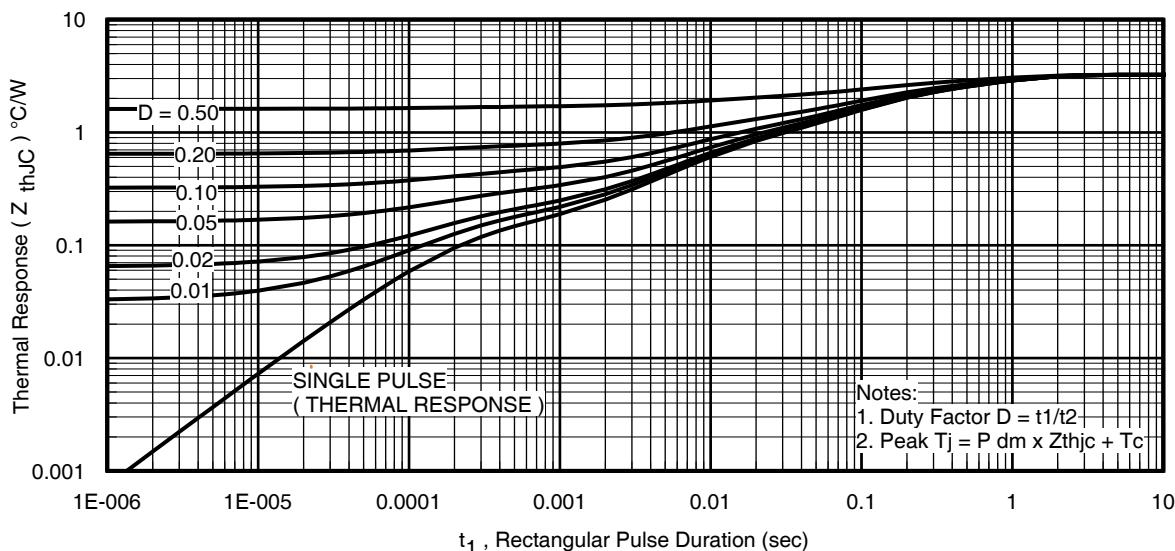

Fig 13. Maximum Effective Transient Thermal Impedance, Junction-to-Case
**Notes on Repetitive Avalanche Curves , Figures 13, 14:
$Z_{thJC}(D, t_{av})$ = Transient thermal resistance, see Figures 13)